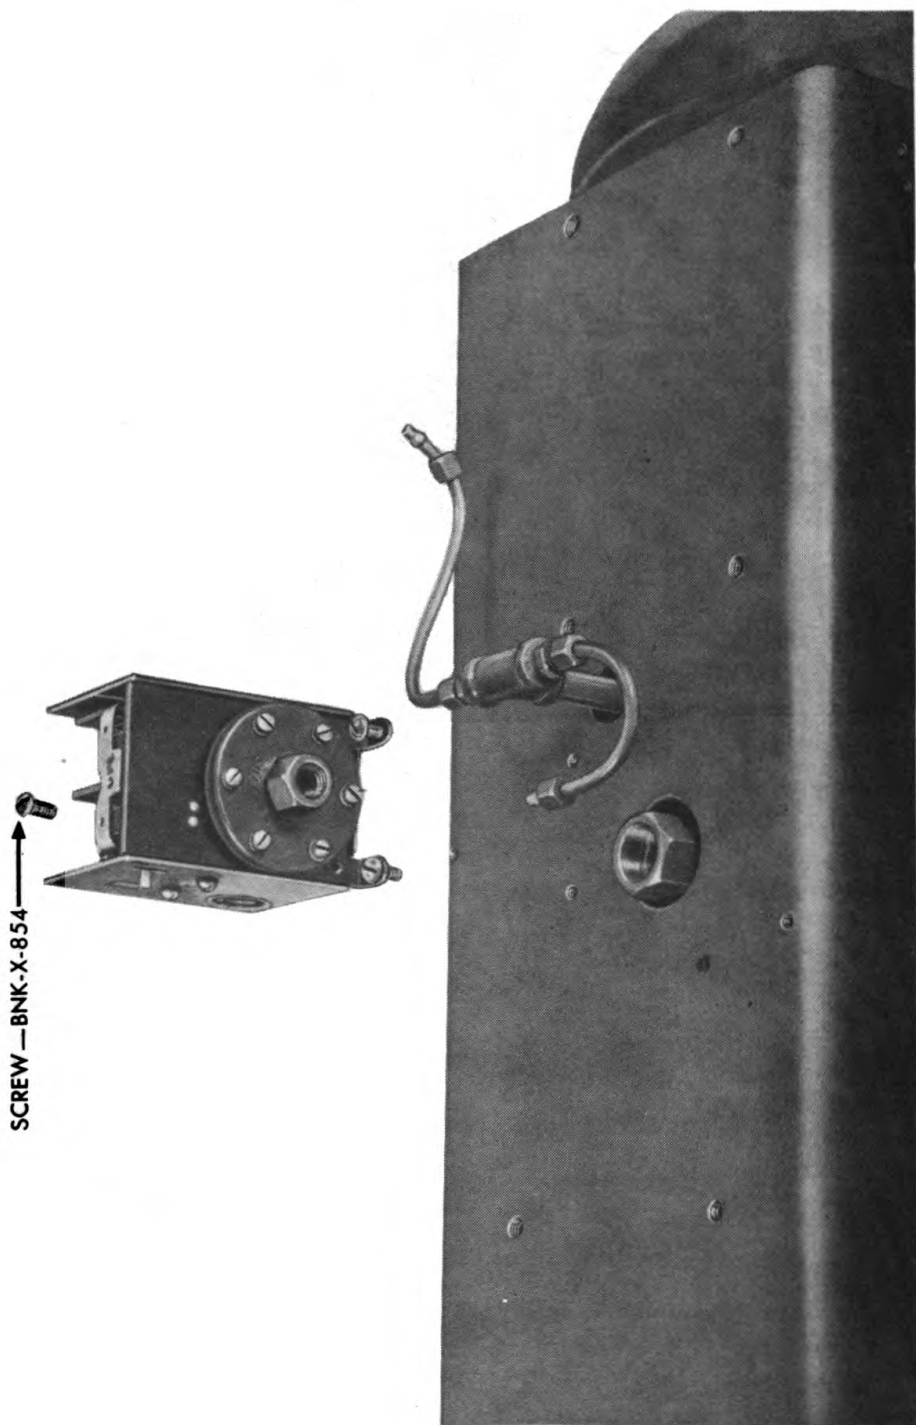

Figure 140 — Cut-off Switch Removed From Air Compressor Tank
(21) Disconnect the air tube connection to the cut-off switch. Remove the three screws to free the switch from the compressor tank base (fig. 140).